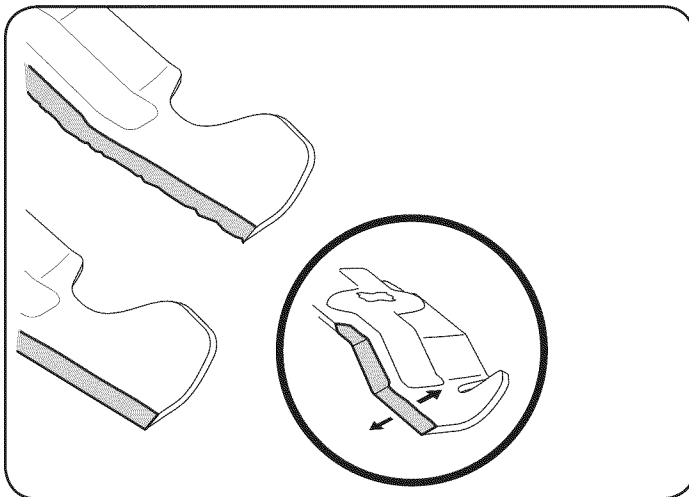

Figure 22
4. To properly sharpen the cutting blades, remove equal amounts of metal from both ends of the blades along the cutting edges, parallel to the trailing edge, at a 25°- to 30° angle. Always grind each cutting blade edge equally to maintain proper blade balance. See Figure 22.